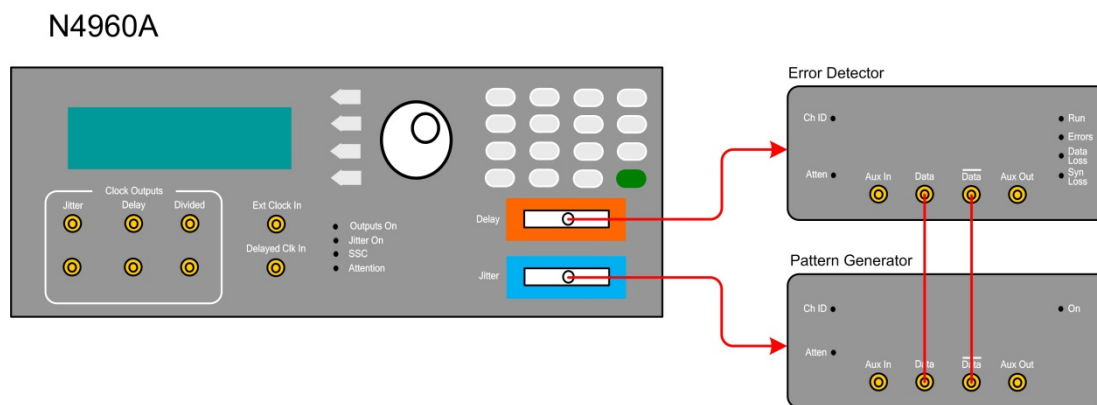

Figure 45. Setup for BER test
1. Connect the equipment as shown in **Figure 45**.